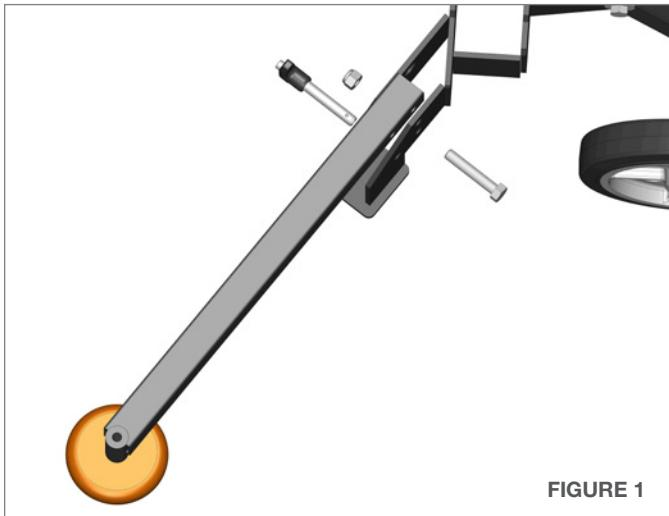

FIGURE 1
1. Remove the 1/2" Bolts, Lock Nuts, and the Quick Release Pins from the Outrigger Leg Assembly and Cart. (**Figure 1**)